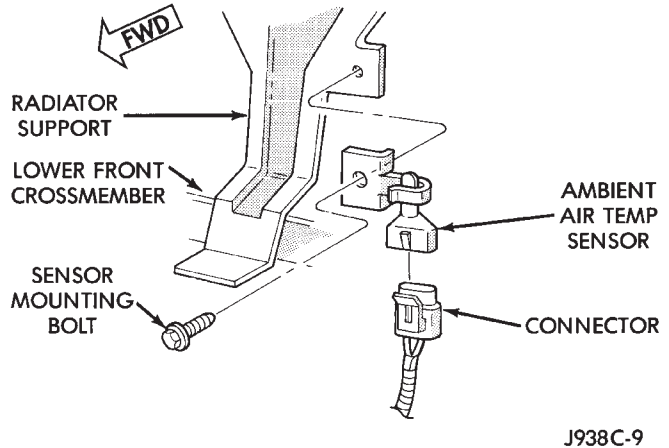

Fig. 6 Temperature Sensor Remove/Install
(1) Disconnect and isolate the battery negative cable.
(2) Remove the radiator grille unit. Refer to Group 23 - Body Components for the procedure.
(3) Locate the temperature sensor, on the radiator support behind the grille (Fig. 6).
(4) Unplug the temperature sensor wiring connector.
(5) Remove the temperature sensor mounting bolt and remove the sensor.
(6) Reverse the removal procedures to install.